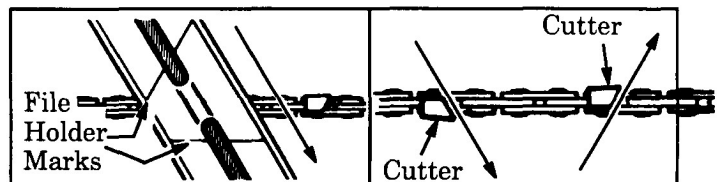

Figure 29
- b.) Align the 30° file holder marks with the bar and parallel to the center of the chain. Figures 29 & 31.